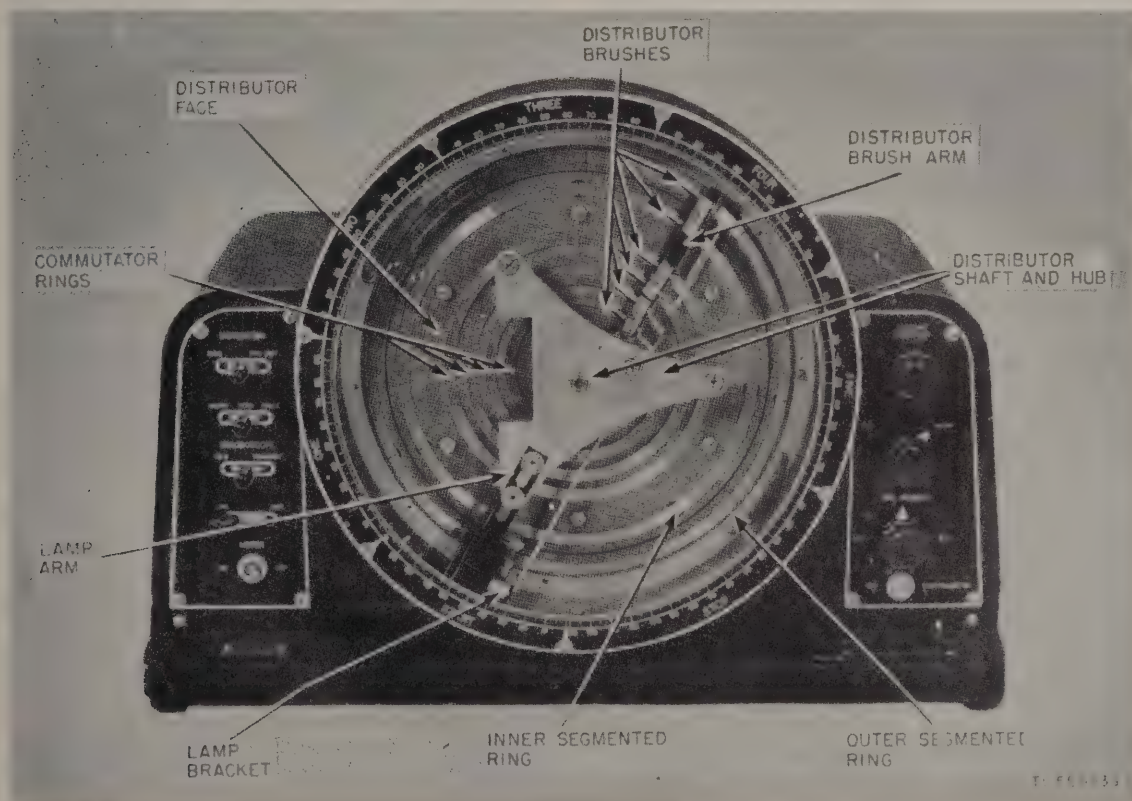

Figure 25. Distortion Test Set TS-383/GG, front view, face plate removed.
a. REQUIREMENT. Hold the motor shaft to keep it from turning. Hook a 64-ounce scale over the edge of the slotted part of the lamp arm (fig. 25) and pull at right angles to the arm. It should require 40 to 48 ounces to barely start the main shaft turning.
97. Indicating Lamp Arm (fig. 25)
99. DISTRIBUTOR BRUSHES (fig. 25)